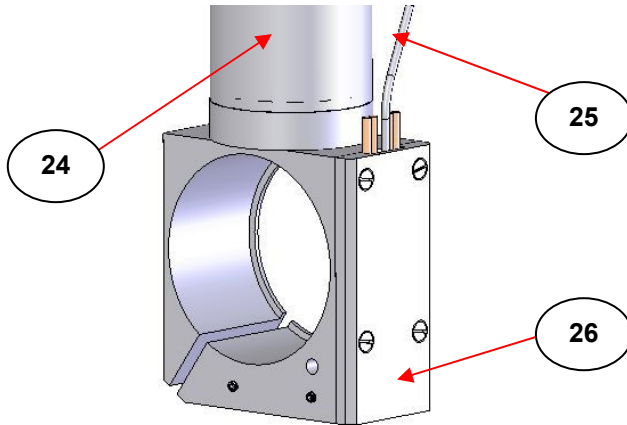

Fig 7. VT Cell GS21525 Cell Holder Detail For Controlling Thermocouple Connection
A copper/constantan (Cu/CuNi) T-type thermocouple (25) is used for control measurement of temperature. It passes through port (18) on the top plate and it is permanently fixed in place with its junction end located in the middle of the two cell holder heaters (26). (See Fig 7.)